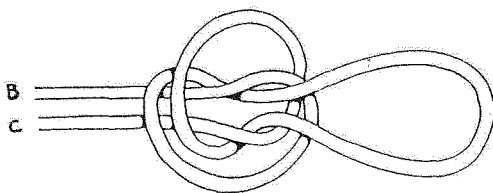

Fig.4
The method is shown in Fig.4. Note that the tying is almost exactly the same as in Fig.1 for the Loop in the Bight; the only difference is in the pulling up. I believe that the knot is much more easily learnt than any of the many other bottle sling knots so well described by Ashley, Eric Franklin, Percy Blandford, and Geoffrey Budworth, and this is certainly true for those who already know the A.B. Loop in the Bight, as tied in paragraph (1)